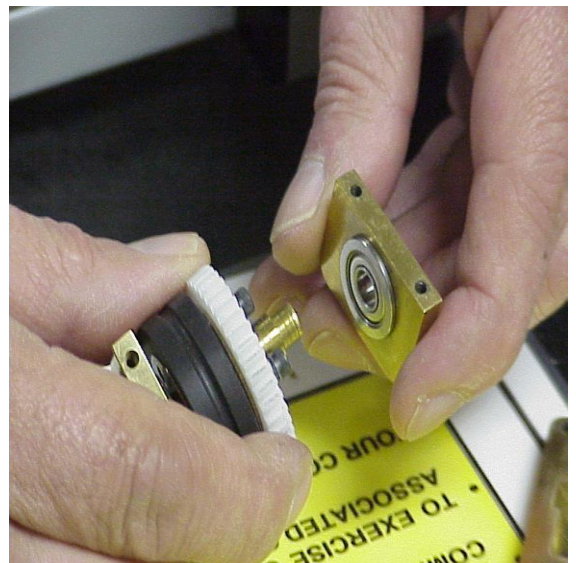

Figure 45
13.5.2.11 Side Plastic Gear-side Bearing Hanger back onto hub shaft with raised Bearing pointing inward toward Gear. **See Fig. 45.**